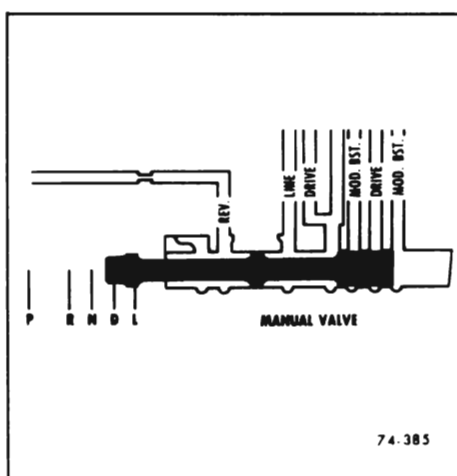

Figure 74-13 - Manual Valve
e. Manual Valve (See Figure 74-13)